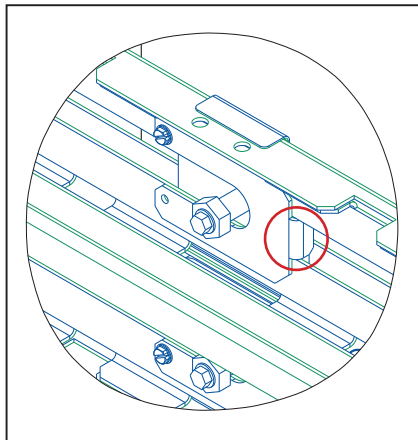

Figure 14: Position Seismic Clip
- Place a seismic clip (0M-4983082) up to the secured mounting points in the frame. Refer to **Figure 14**.